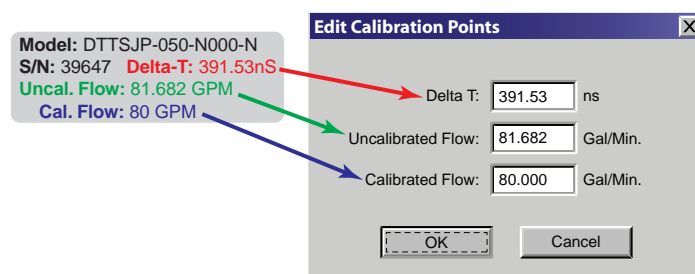

FIGURE 2.10 - EDIT CALIBRATION POINTS
7) Enter Delta T, Un-calibrated Flow, and Calibrated Flow values from the DTS/DTC calibration label, then click **OK**. See **Figure 2.10**.